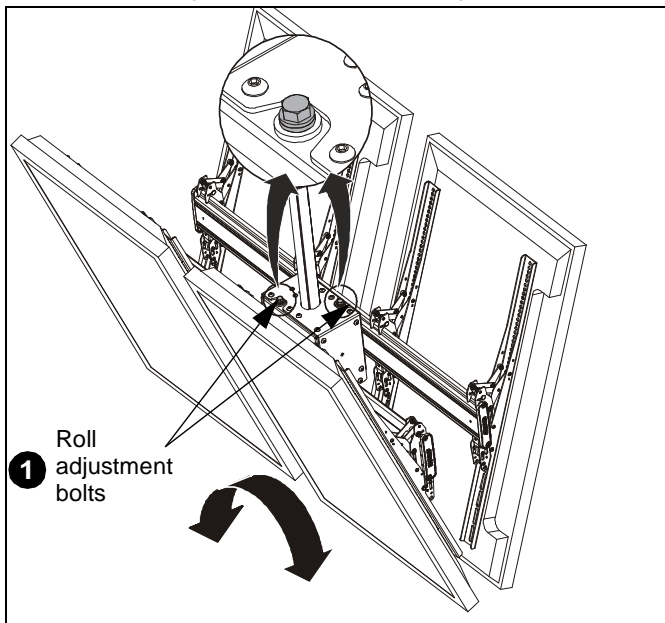

Figure 11
1. Turn the roll adjustment bolt(s) in the direction necessary for the desired roll. (See Figure 11)